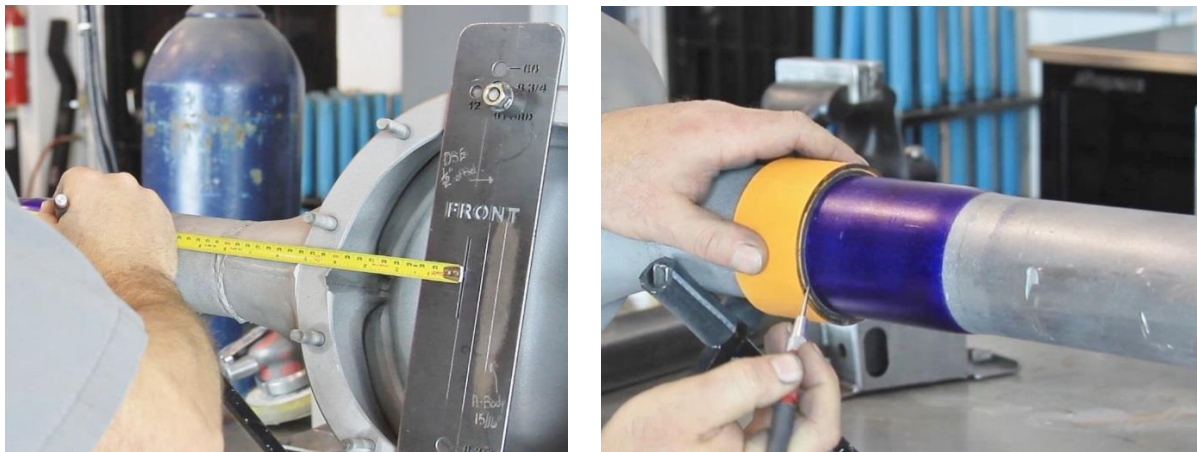
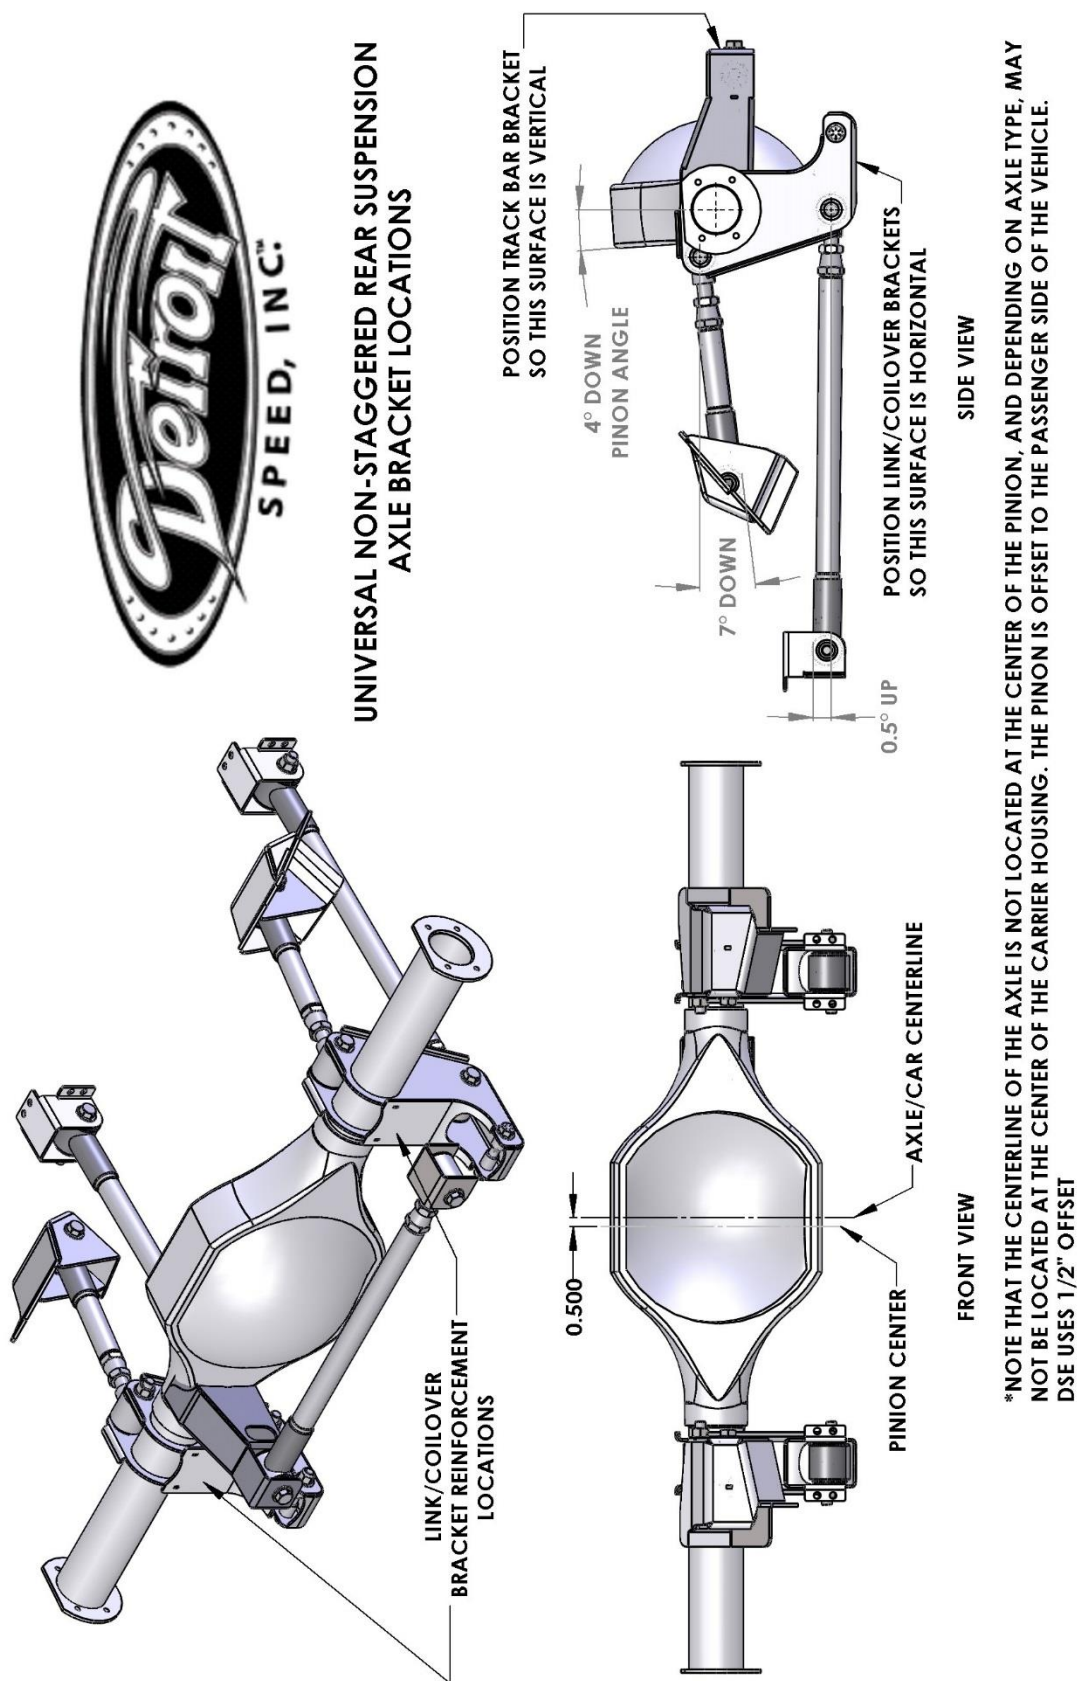

Figure 3 - Locate Axle Brackets on Axle Tubes
Figure 12 – Axle Bracket Location
4. Using a pinion centering tool, measure from the centerline of the rear axle outward in both directions to mark your axle bracket location. This will be the location where the inside edge of the axle brackets will be positioned. Use the diagram in these instructions to locate the axle brackets on the axle housing (Figure 12 on page 10). **NOTE:** Detroit Speed offers a pinion centering tool (P/N: 070202) that will be helpful in placing your axle brackets in the correct location on your axle tube. Draw a scribe line around the axle tube at the marked locations (Figure 3).
5. Install the axle brackets over the axle tubes and position the inside flange of the brackets at the scribed circle on the axle tubes. Clamp the rear axle in place on a bench. Rotate the housing forward so that the center section mounting flange is 4° down from vertical (Figure 12 on page 10). Install the 2.42"L weld spacers into the upper link holes along with the 9/16"-18 bolts (Figure 4).
7. Install the track bar axle bracket up against the rear axle housing. Trim the bracket as needed to fit against the axle housing. Verify that it is 90° to the axle tube and tack weld them in place (Figure 12 on page 10). Verify that the bracket fits tight to the rear housing and finish weld (Figure 6).
2. Detroit Speed recommends installing the upper link pointing down 7° and the lower link pointing up 0.5° at ride height (Fig. 12 on page 10). This would give you an instant center of 57.0" forward of the rear axle centerline with a height of 6.8" above ground level.